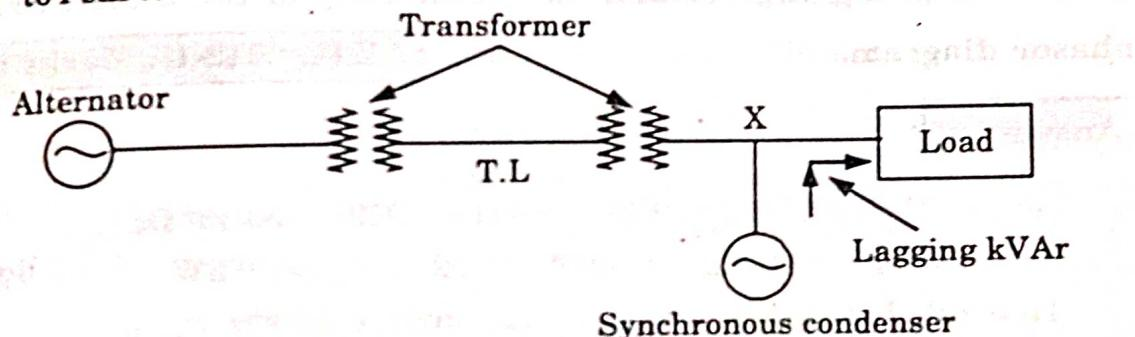
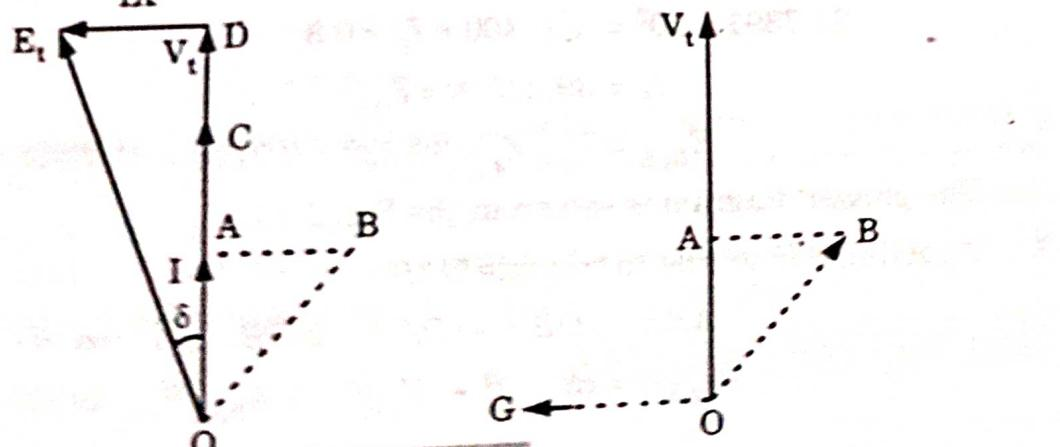

Fig. 2.12.3.
Fig. 2.12.4.
12. With the installation of synchronous condenser at X, Fig. 2.12.3 suppose that the load power factor at X is improved to unity then lagging kVAr required by the load and equal to  $AB$  are locally supplied by the synchronous condenser as  $OG = AB$  as shown in Fig 2.12.4..